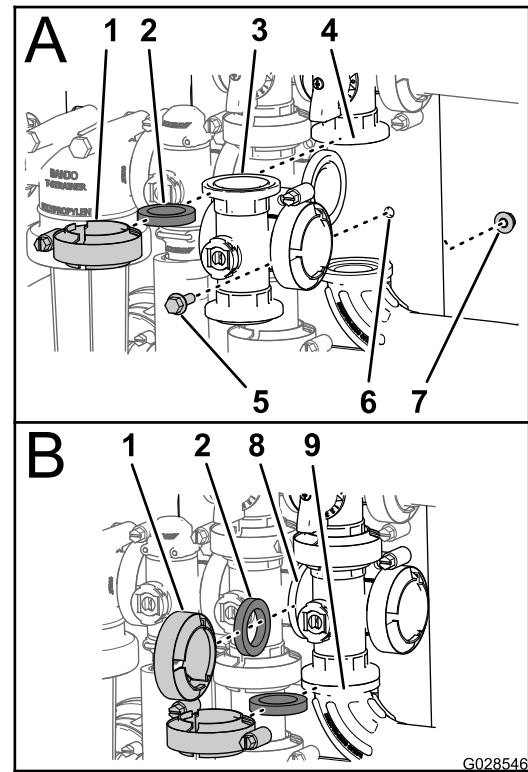

Figure 103
1. Align the flange of the master-boom-valve manifold, a gasket, and the flange of the master boom bypass valve (A of Figure 103).
2. Assemble the master-boom-valve manifold, gasket, and master boom bypass valve with a clamp tightened hand tight (A of Figure 103).
3. Align the flange of the master-boom-valve manifold, a gasket, and the agitation-valve manifold (B of Figure 103).
4. Assemble the master-boom-valve manifold, gasket, and agitation valve manifold with a clamp and tighten by hand (B of Figure 103).
5. Align the flange of the master-boom-valve manifold, a gasket, and the 90° flanged elbow (at the end of the hose for the flow meter; refer to B of Figure 103).
6. Assemble the master-boom-valve manifold, gasket, and 90° flanged elbow with a clamp and tighten by hand (B of Figure 103).